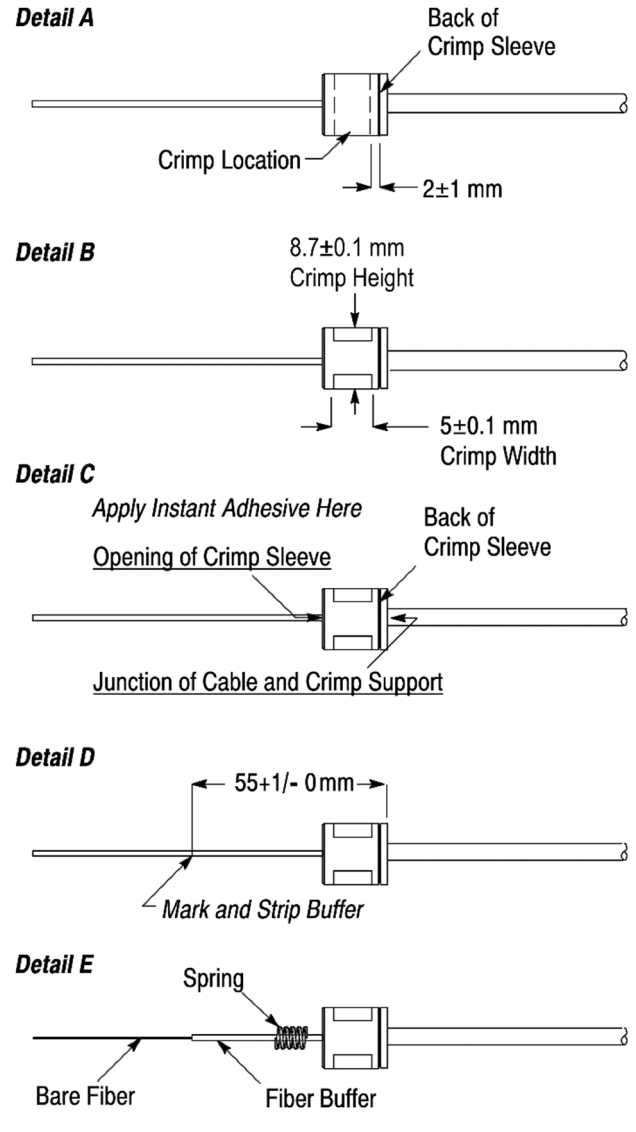

Figure 5
7. Place the crimp sleeve in the 8.6-mm hex nest of the hand tool and crimp the crimp sleeve onto the crimp support. Make sure to position the crimp sleeve in the hex nest so that the crimp will locate from the back of the crimp sleeve to within the dimension shown in Figure 5, Detail A.
8. Using the micrometer or caliper, measure the crimp sleeve across the flats of the hex crimp to make sure that it conforms to the crimp height and crimp width shown in Figure 5, Detail B. If necessary, crimp again, and re-measure the crimp.
9. At the back of the crimp support, apply the instant adhesive around the circumference of the crimp support at the junction of the cable and the crimp sleeve. Then at the front of the crimp sleeve, apply the instant adhesive over the opening of the crimp sleeve to encapsulate the strength members. See Figure 5, Detail C. Remove any excess adhesive.
10. Mark the fiber at the dimension shown in Figure 5, Detail D, and using the fiber stripping tool, strip the buffer to the mark, exposing the bare fiber. Using a lint-free tissue or cloth dampened with the isopropyl alcohol or acetone, clean the bare fiber.
11. Slide the spring onto the fiber buffer. See Figure 5, Detail E.